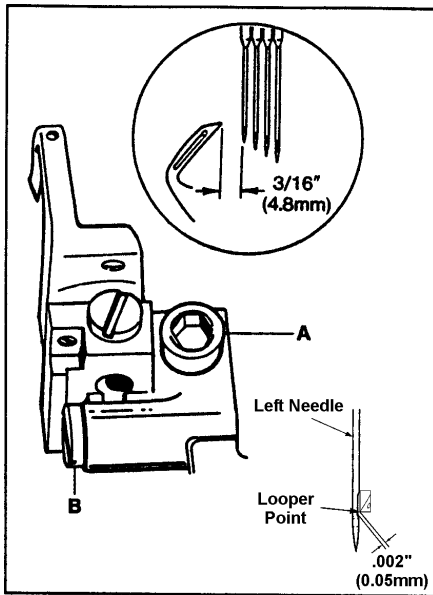

FIG. 15
Turn the handwheel in operating direction until the looper has traveled fully to the left. Loosen screw (A, Fig. 15) and move the looper holder to the right or left until the distance from the point of the looper to the center of the first (left) needle is 3/16" (4.8mm). Clearance between the looper point and the scarf of the needle must not exceed .002" (0.05mm). Turn screw (B) until the .002" (0.05mm) dimension is achieved. Tighten screw (A).